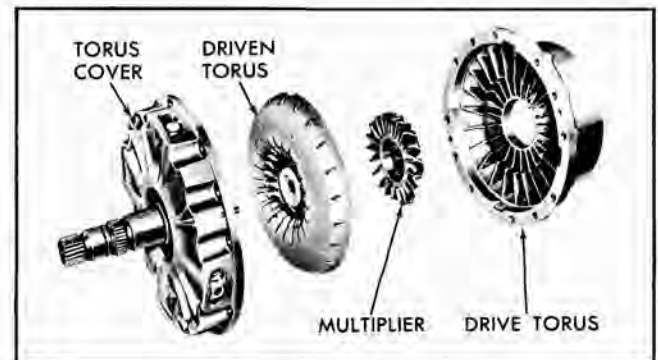

Fig. 113 Torus Assembly
1. Inspect drive torus member for porosity, chipped or damaged vanes (Fig. 113).